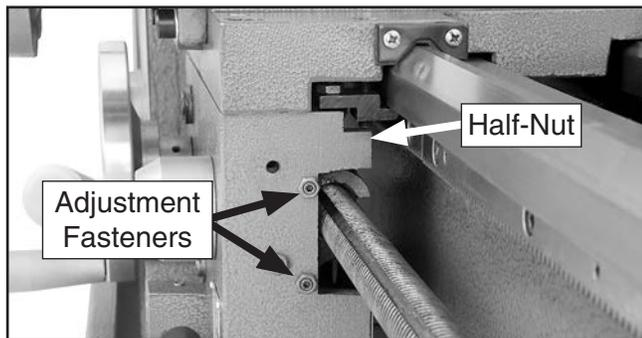

Figure 94. Typical half nut gib adjustment.
3. Loosen the two adjustment hex nuts shown in **Figure 94**, then adjust the set screws in small, even increments so one end of the gib does not become tighter than the other.